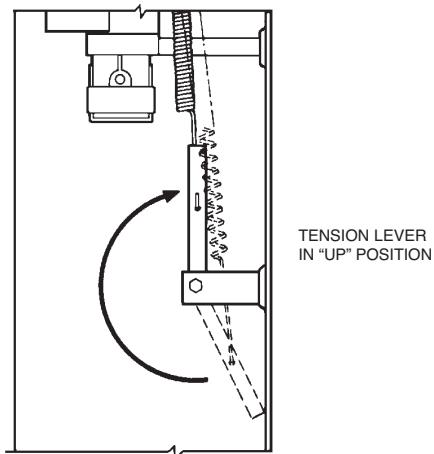

FIGURE 16
- 23. Raise the tension lever to "UP" position. See Figure 16.